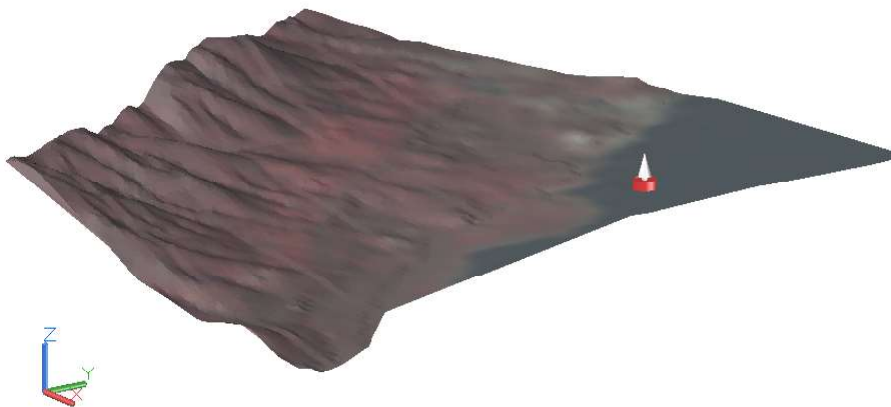

Figure 3-84 The surface with the draped raster image
4. Choose the **Orbit** tool from the **Navigation 2D** panel of the **View** tab and orient the drawing to a suitable viewing angle. Exit the **Orbit** tool by pressing the ESC key. The drawing area now shows the surface with draped raster image, as shown in Figure 3-84.